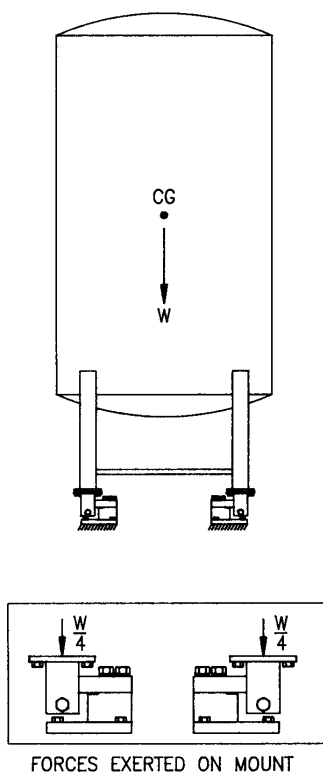

Figure 1-26
In general, these forces act horizontally at the center of gravity (CG) of the weigh vessel. Figure 1-26 illustrates a four-legged vertical cylindrical vessel and the forces acting on it in the absence of wind or seismic forces. W is the vessel's weight (an empty and full vessel should be considered separately, as either one may be the limiting case), and it acts through the vessel's center of gravity. Assuming that the four legs are arranged symmetrically, then each leg will exert a force of $1/4W$ on each mount.